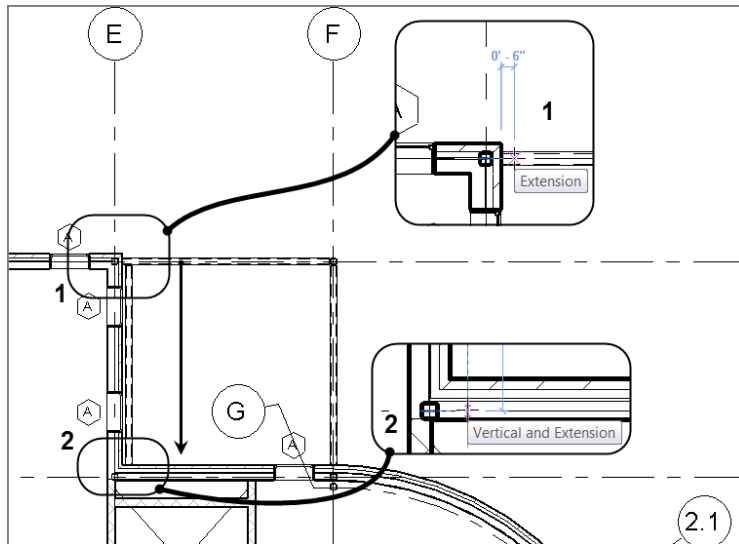

FIGURE 8.37: Adding a beam 6" (150mm) off the face of the wall to column line 2
10. Draw a beam 6" (150mm) off the finish face of the wall, starting at the top beam and ending on column line 2, as shown in Figure 8.37. (This beam will later be supported by the framing within the building.)